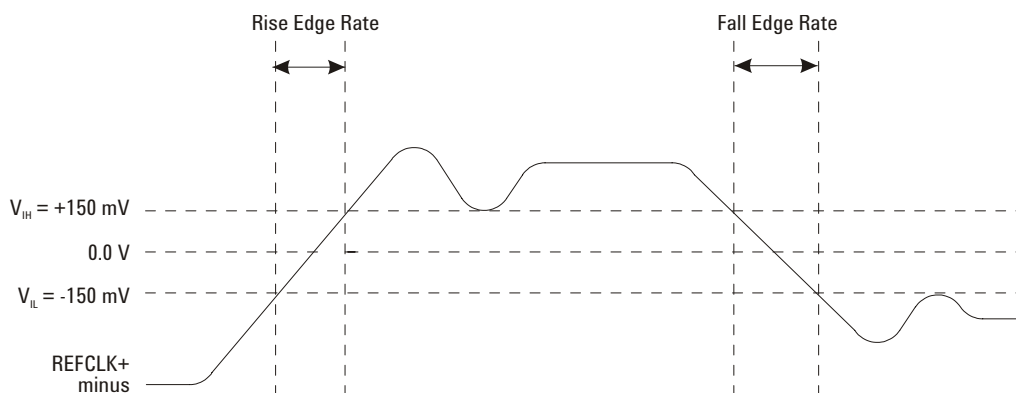

Figure 30 Differential Measurement Points for Rise Edge and Fall Edge Rate.
- Measured from the -150 mV to +150 mV on the differential waveform (derived from REFCLK+ minus REFCLK-). The signal must be monotonic through the measurement region for rise and fall time. The 300 mV measurement window is centered on the differential zero crossing. See Figure 30 on page 103
- Measured from the -150 mV to +150 mV on the differential waveform (derived from REFCLK+ minus REFCLK-).The signal must be monotonic through the measurement region for rise and fall time. The 300 mV measurement widow is centered on the differential zero crossing. See Figure 30 on page 103
Figure 30 on page 103 shows the measurement point for the differential input high voltage measurement.
Figure 30 on page 103 shows the measurement point for the differential input low voltage measurement.